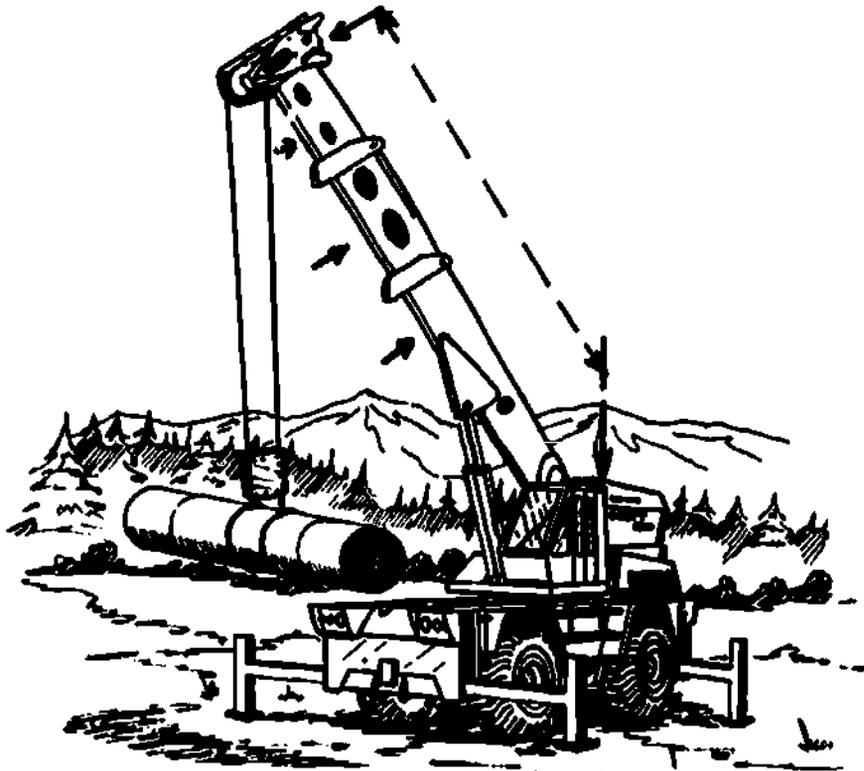

Fig 1-17. Boom length.
- b. Boom length is the distance from the center of the boom hinge pin at the base of the boom, to the end of the last boom section. The Drott 30-ton boom's length is easily read from the cab by looking at the length markings on the side of the number two boom section. See figure 1-17.